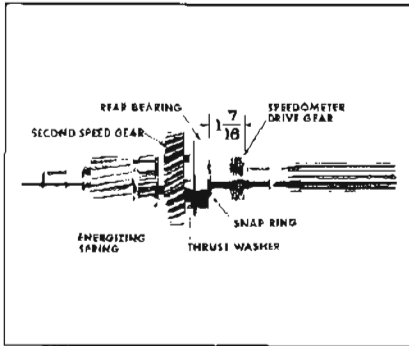

Figure 4-20—Mainshaft Identification
8. Start speedometer drive gear on shaft with chamfered I.D. of gear toward bearing. Press gear on shaft until forward face of gear is 7/8" from face of bearing. See Figure 4-20.